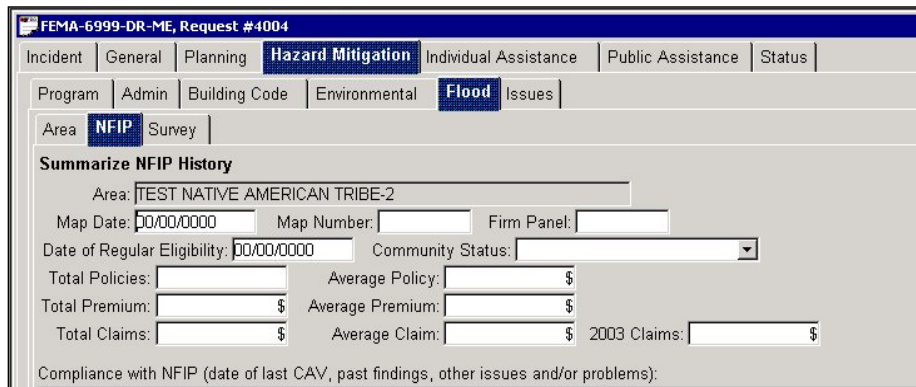

Figure 3-11: PDA > Hazard Mitigation > Flood > NFIP Tab
- f. The fifth sub-tab under **Hazard Mitigation** is **Flood** (Figure 3-11).